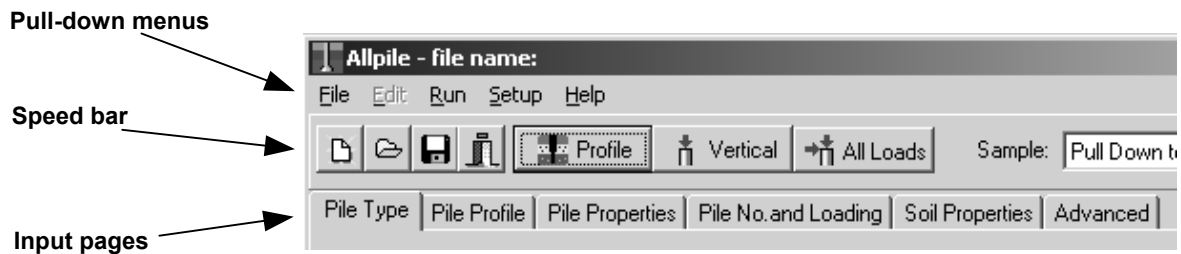

**Figure 3-2.** Main Components of Program Interface
- Step 1.**            **Input Data:** Enter information into the tabbed input pages (Figure 3-2). This step is described in detail in Chapter 4.
AllPile's program interface has three main components (Figure 3-2):